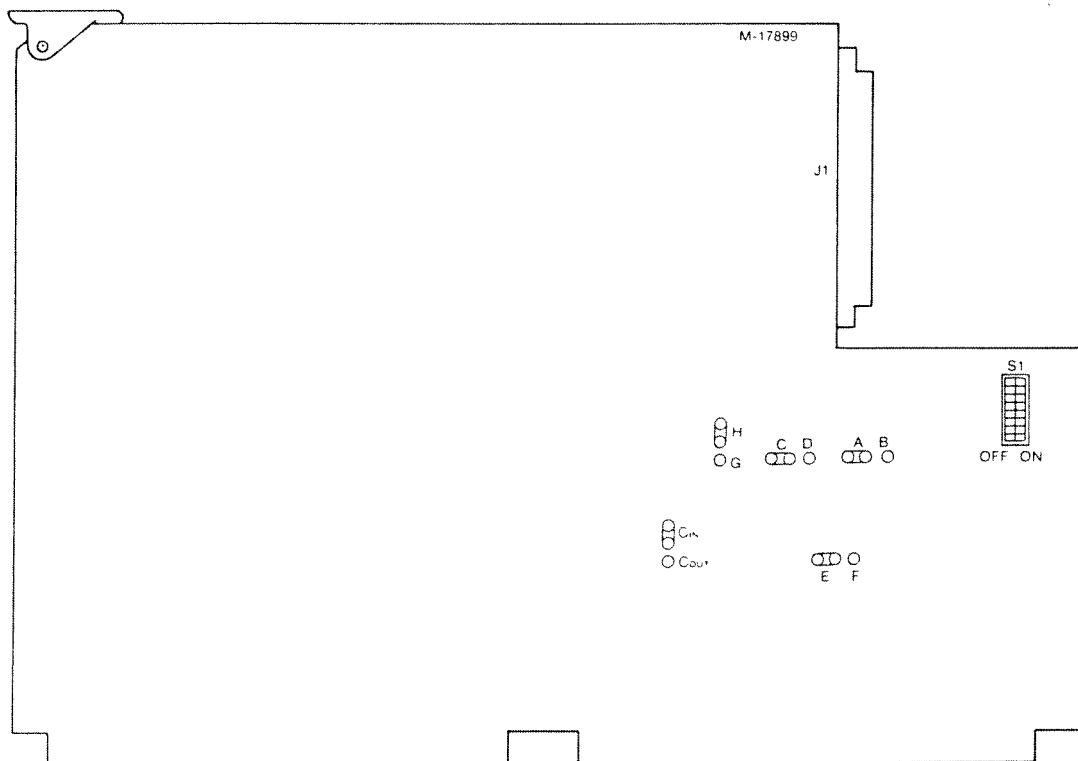

Figure B-8
15. Change jumper "H" to position "G" on the Miscellaneous Logic Board (see Figure B-8).
10. Remove the Miscellaneous Logic Board from the Analyzer, change jumper "H" to position "G" for the Model 8222. For the Models 8222A/B, use position H (see Figure B-8 for jumper location). Replace the board in the Analyzer.